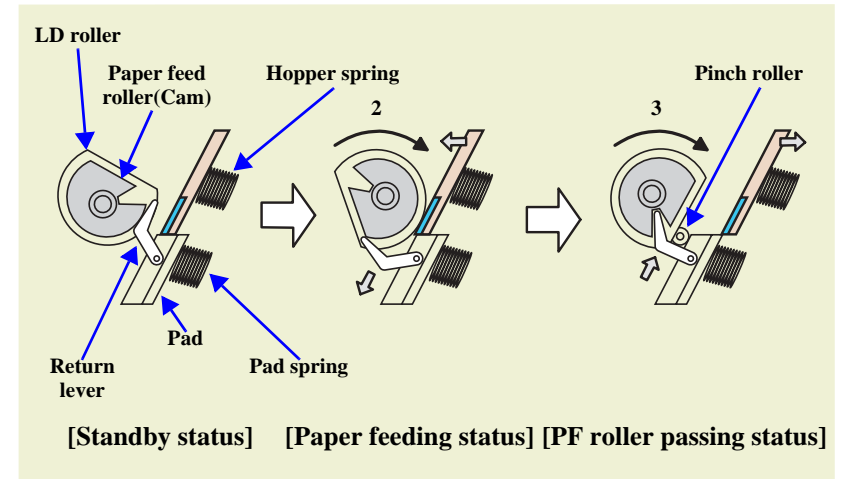

Figure 2-7. Paper Feeding Operation
1. At power-on, the ASF/Pump motor rotates in the CCW direction and the ASF home position is detected. Then, the ASF/Pump motor rotates in the CW direction by the specified number of steps, thereby setting the LD roller and Paper return lever in the paper feeding standby position. Refer to [Standby status] in Figure 2-7, "Paper Feeding Operation".
2. When you give a paper feeding command from the PC and press the Paper switch on the panel, the ASF/Pump motor rotates in the CCW direction and the LD roller starts paper feeding. Refer to [Paper feeding status] in Figure 2-7, "Paper Feeding Operation".
3. When the paper is transferred from the ASF unit to the PF roller and detected by the PE sensor, the LD roller stops in the position where the friction of the LD roller is cleared. Refer to [PF roller passing status] in Figure 2-7, "Paper Feeding Operation".
4. Then when you give a print command and press the Paper switch on the panel, the ASF/Pump motor rotates in the CW direction by the specified number of steps, thereby setting the LD roller and Paper return lever in the paper feeding standby position. Refer to [Standby status] in Figure 2-7, "Paper Feeding Operation".